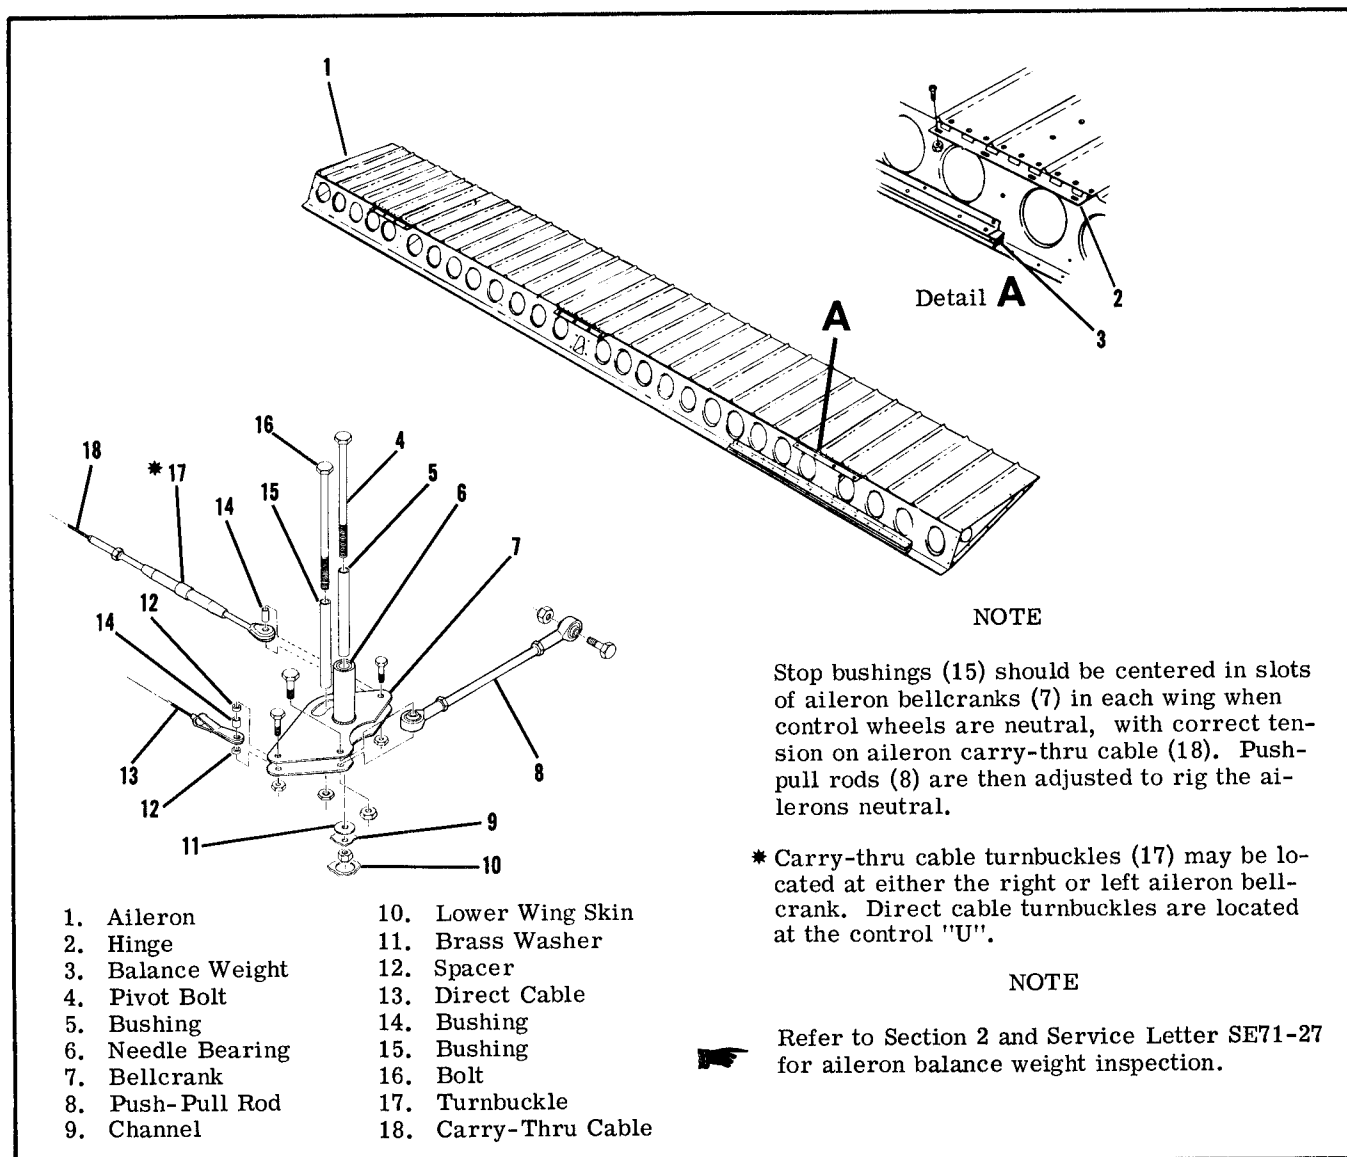

Figure 6-3. Aileron and Bellcrank Installation
6-7. **AILERON BELLCRANK.** (Refer to figure 6-3.)
#### 6-11. AILERONS. (Refer to figure 6-3.)
- a. Check that primary control cable (7) is in aft groove of cable drum (8) and wrapped once around drum. The primary cable lock (9) is installed at bottom of the drum and transition cable lock (12) is installed at top.
- b. With control wheels neutral, check that chain ends (4) are approximately the same distance from sprockets (1).
c. Keeping control wheels neutral, tighten turnbuckles (6) so that control wheels are level in the neutral position (synchronized), with enough tension on the cables to remove slack from chains, without binding. Results of adjusting the turnbuckles are as follows:
1. Loosening primary cable turnbuckles (6) and tightening secondary cable turnbuckle (13) at center of control "U" will move the inboard sides of both control wheels down.
2. Tightening either primary control cable turnbuckle (6) and loosening secondary cable turnbuckle (13) at center of control "U" will move outboard side of applicable control wheel down.
- e. Adjust direct cable turnbuckles (15) below the control "U" and the single carry-thru turnbuckle (index 17, figure 6-3) at the aileron bellcrank so that the bellcrank stop bushings (index 15, figure 6-3) are centered in both bellcrank slots with  $40 \pm 10$  pounds tension on the aileron carry-thru cable (index 18, figure 6-3). Disregard the tension on direct cables.
- f. Adjust push-pull rods (index 8, figure 6-3) at each aileron until ailerons are neutral with reference to trailing edge of wing flaps. Be sure wing flaps are fully UP when making this adjustment.